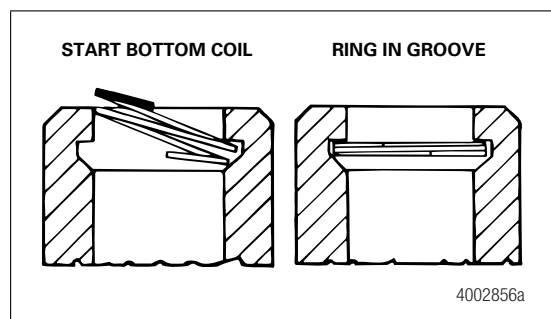

Figure 5.4
9. Use a small screwdriver to press one end of the ring into the groove. Figure 5.4.